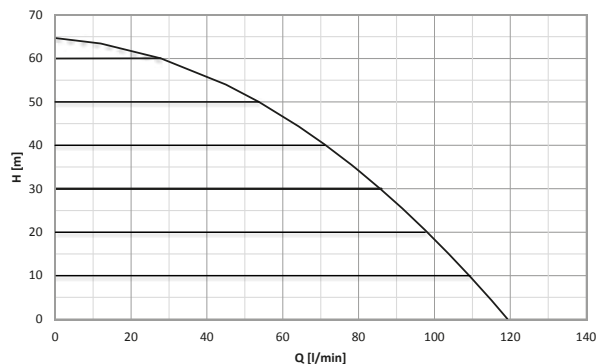

Figure 6
The diagram in Fig. 6 shows the curves of the hydraulic performance for e.sybox. By automatically modulating the rotation speed of the electropump, the inverter allows it to shift its work point according to necessities to any part of the area subtended by its curve, to keep the set pressure valve constant (SP). The red curve shows the behaviour of the e.sybox with set point at 3.0 bar.